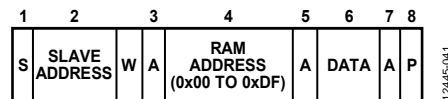

Figure 43. Single Byte Write to the RAM
- To write a single byte of data to the RAM. In this case, the command byte is RAM Address 0x00 to RAM Address 0xDF, and the only data byte is the actual data, as shown in Figure 43.